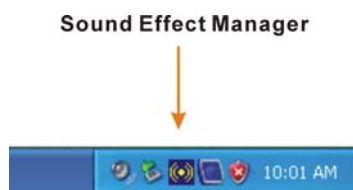

Figure D-2: Sound Effect Manager Icon [Task Bar]
- The **Sound Effect Manager** icon in the **Notification Area** of the system task bar (see **Figure D-2**), or